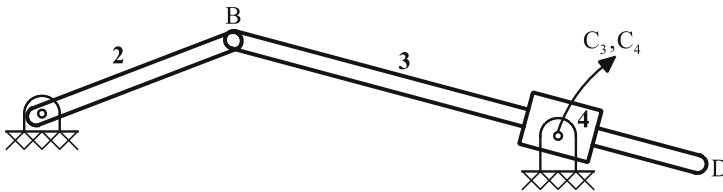

Fig. 2.59 Angular velocity of the arm OB is given
23. Given the angular velocity of the arm OB (member 2) (Fig. 2.59), which of the following equations is correct for finding the angular velocity of the arm BD (member 3)?